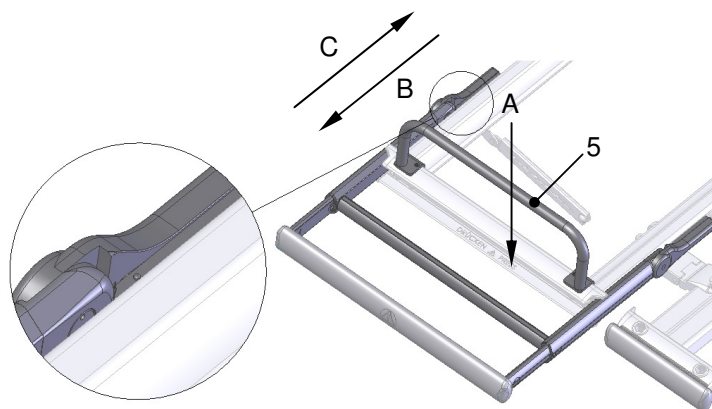

Fig. 3
2. Press the release section downwards (direction A) and pull the side rail out (direction B) (fig. 3).
3. To install the new side rail, you must press the release section down again (direction A) and guide both joints into the frame cross section at the same time (direction C) (fig. 3).
4. Strike the parallel pins from the top to the bottom with a flat object so that the parallel pins and the hinged guide are flush (detail fig. 3). When doing this, make sure that the hinged guide is not damaged.
6. Unscrew the existing mattress holder (5) from the bed and then install the elevated mattress holder.